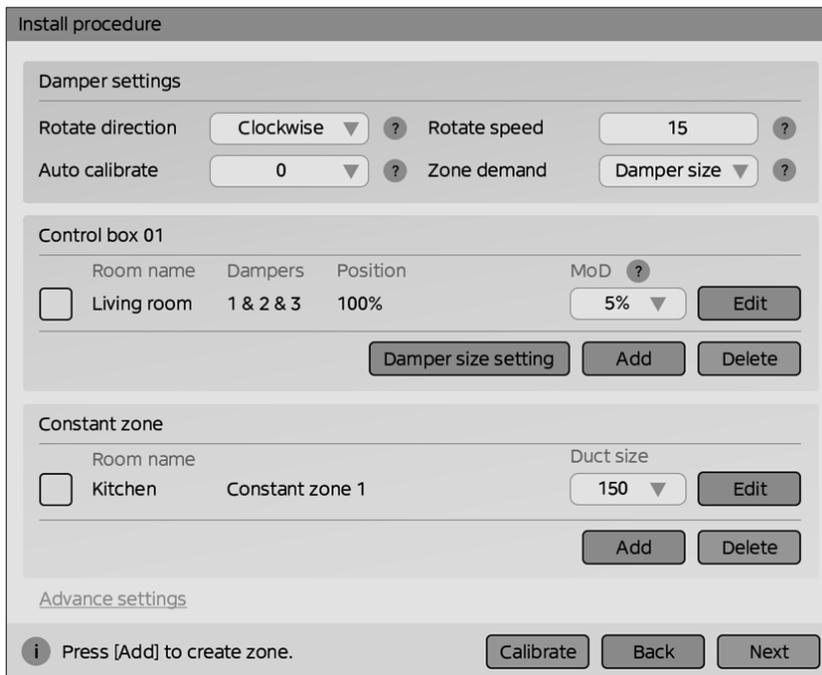

Fig 1.4
4. Set the operation parameters of the damper and establish the corresponding relationship between rooms and dampers (refer to Fig 1.4).